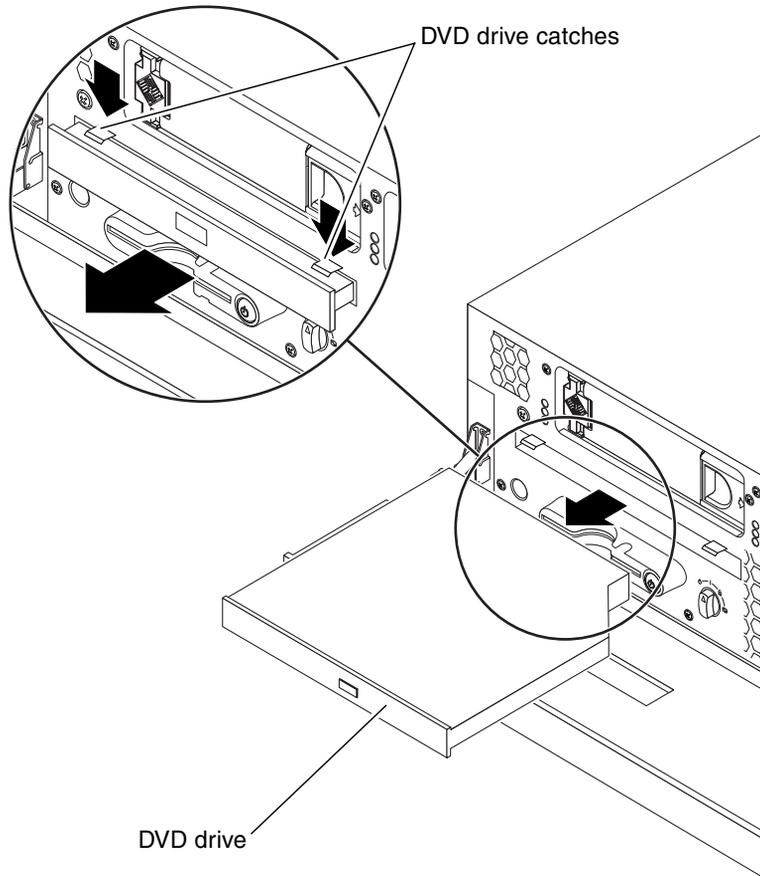

FIGURE 3-6 Removing a DVD Drive
3. Unclip the catches that fasten the DVD drive to the chassis (FIGURE 3-6).
3. Push the DVD drive firmly into the drive slot until the DVD connector is inserted into the system and the clips engage with the chassis (FIGURE 3-6).